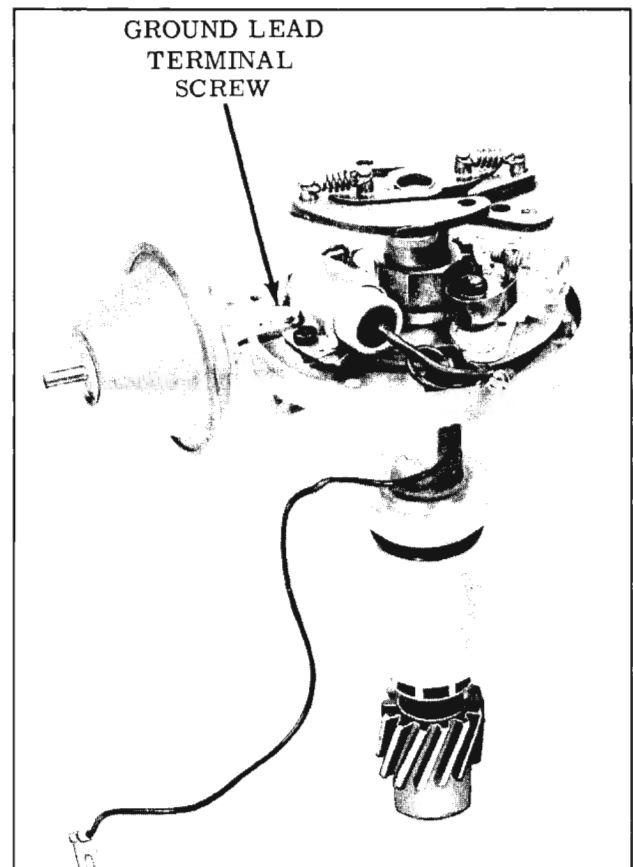

Fig. 14-132 Distributor Ground Lead
4. Loosen the ground lead terminal screw and disconnect the ground lead terminal from the vacuum advance unit. (Fig. 14-132)